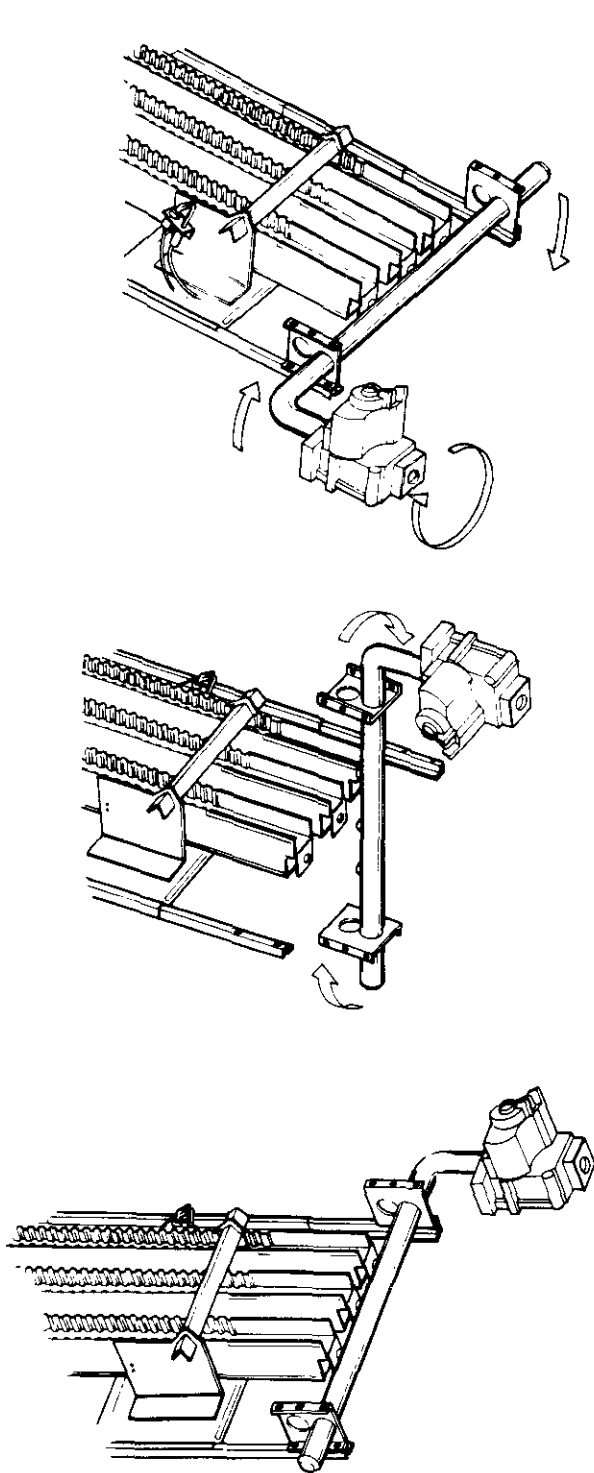

Figure 17 (4-016)
5. Unscrew manifold bracket mounting screws. Remove manifold and gas control. Rotate gas control 180-degrees from its initial position. Always use backup wrench on manifold to keep it from twisting when rotating gas control. See Figure 17.
6. Install manifold with gas control on opposite side of burner rack. Make sure brown gas control knob is up. Install manifold mounting bracket screws to torque of 60 inch-pounds. See Figure 17.